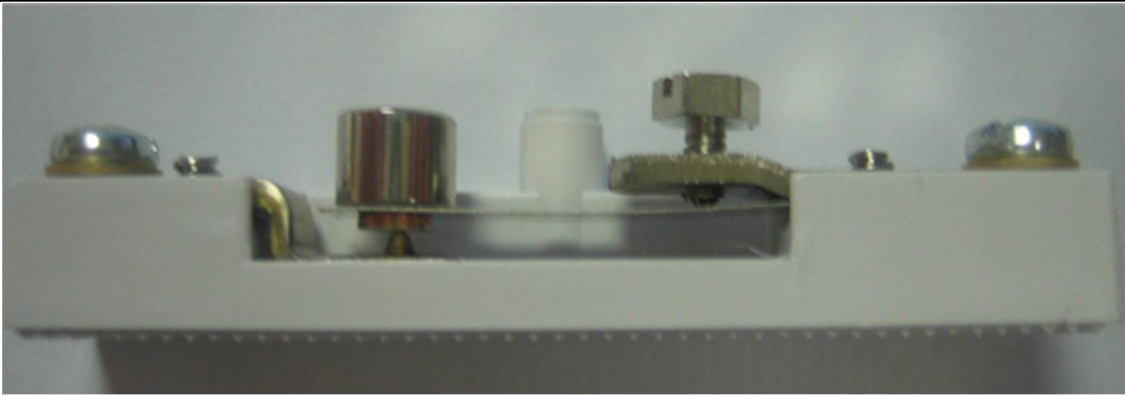

Figure 3
4. The slotted screw can be adjusted clockwise (less sensitive) or counterclockwise (more sensitive). The screw simply pushes down on a piece of spring steel that forces the contacts to close tighter. The further clockwise the screw is adjusted the harder the impact needed to open the contacts. (See figure 3 for side view of the contact).